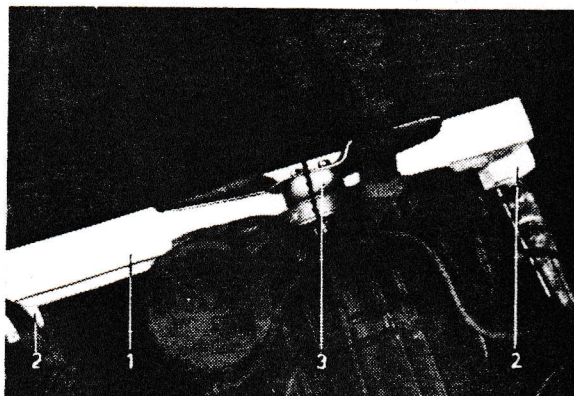

Fig. 10. Engine support
7. Screw off the nuts at the front engine mountings. Remove the front engine guard plate. Place a wooden block (1, Fig. 10, size about  $62 \times 6 \times 6 \text{ cm} = 24 \frac{1}{2} \times 2 \frac{1}{2} \times 2 \frac{1}{2}''$ ) above the support members but under the fan hub (3). Insert the wooden block from below. In addition, on P 210 two blocks (2, size  $4 \times 6 \times 6 \text{ cm} = 1 \frac{1}{2} \times 2 \frac{1}{2} \times 2 \frac{1}{2}''$ ) should be placed between the frame and the above-mentioned wooden block. On late production models a recess must be made in the block. If the vehicle is not to be moved and an overhead hoist is available, the engine can be suspended in this instead.